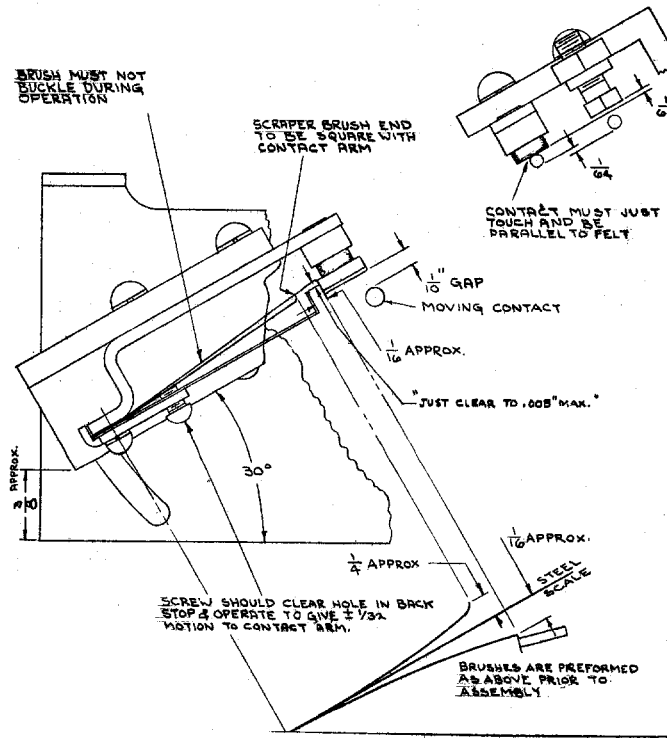

Fig. 18 (365A400-2 Sh. 1) Contact Adjustment of Mho Units on Type GCX11A Relays
3. Contact Gap - The contact gaps of the normally open and normally closed contacts are controlled by positioning the stationary contact support on the shelf. The recommended settings are illustrated in Figs. 18 and 19.